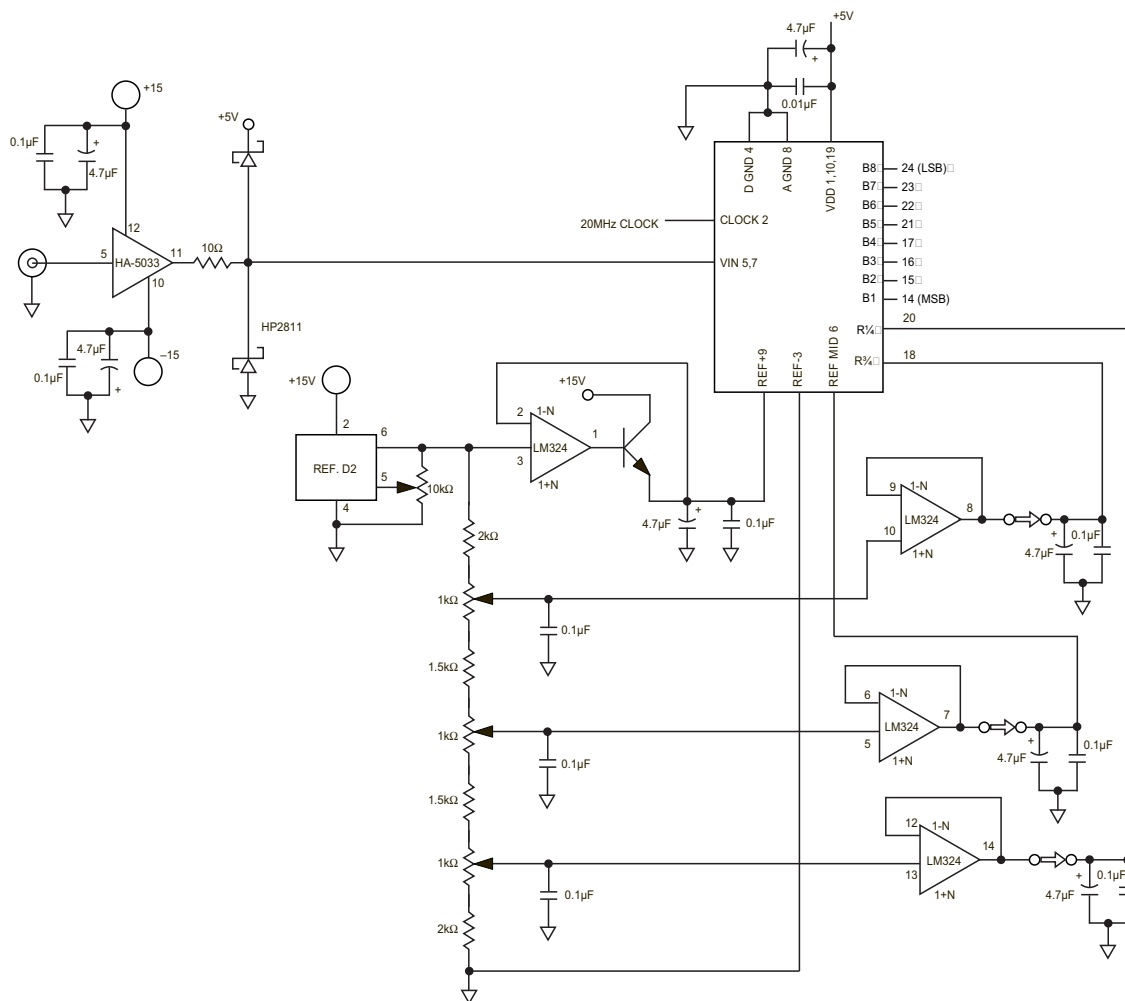

Figure 2. ADC-208A Typical Connection Diagram
7. Connect the converter appropriately; a typical connection circuit is shown in Figure 2. Then apply an appropriate clock input. The reference input should be held to $\pm 0.1\%$ accuracy or better. Do not use the +5V power supply as a reference without precision regulation and high-frequency decoupling capacitors.